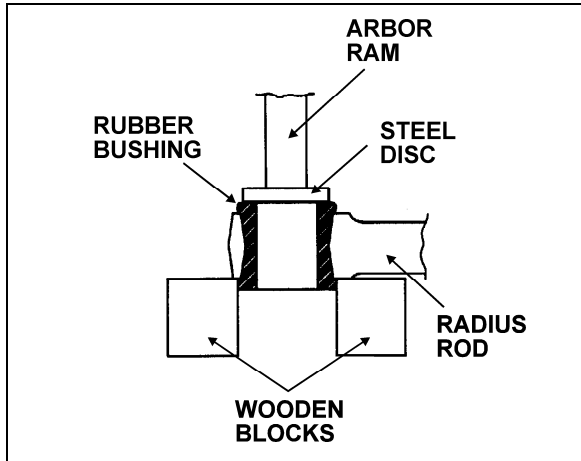

FIGURE 7: RADIUS ROD BUSHING REMOVAL 16011
- Safely support the radius rod as shown in figure 7.